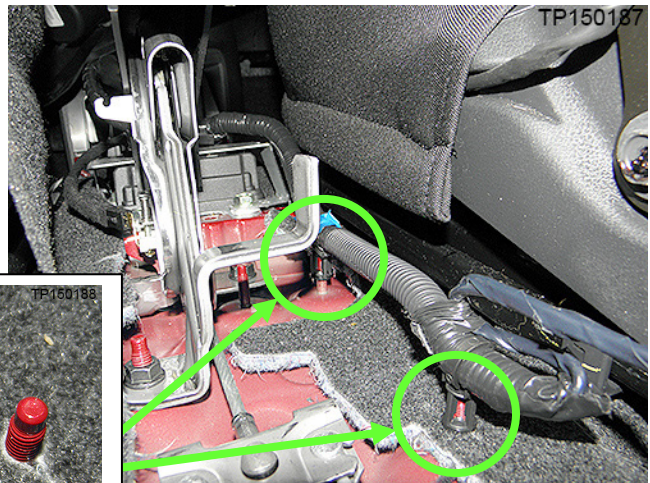

Figure 3
4. Lift the rear of the Center Console Assembly (Figure 3) and disconnect the two harness retainers that attach the harness to the vehicle floor.
- Figure 3 is shown with the Center Console Assembly removed to show retainers.